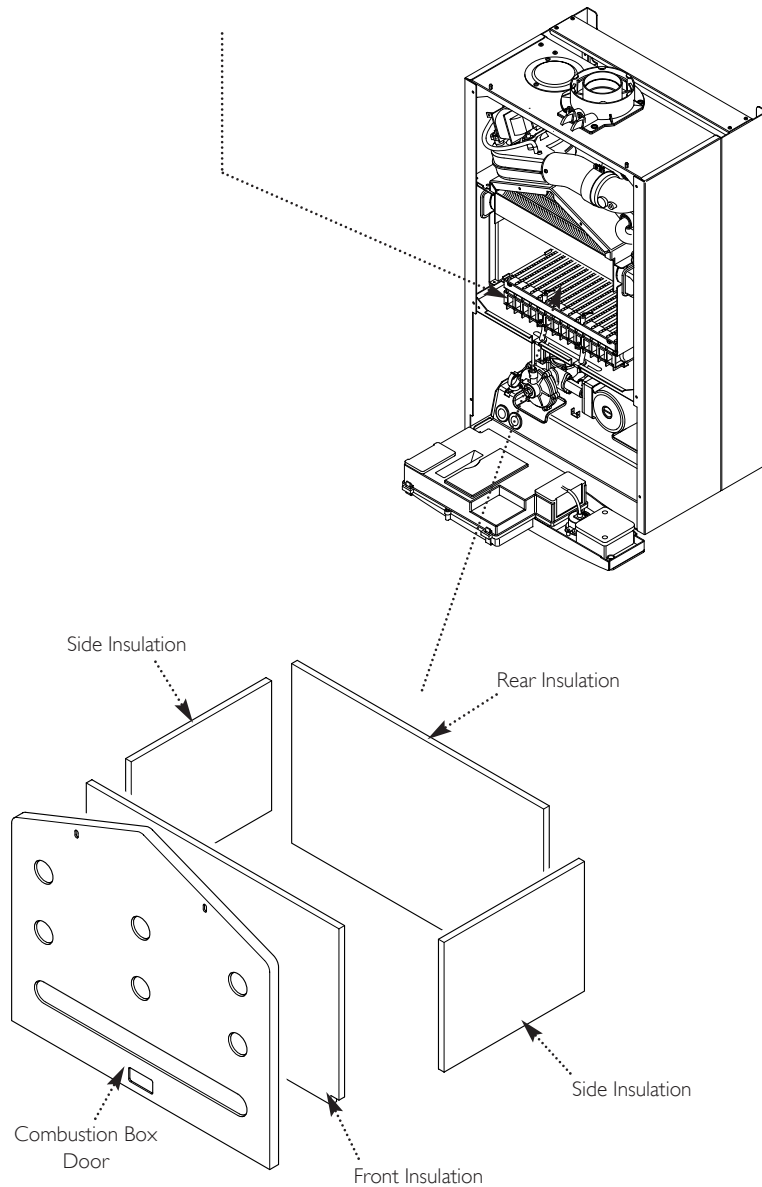

Fig. 67
14.7 Insulation (Fig. 67)
14.20 Plate Heat Exchanger (Fig. 67)